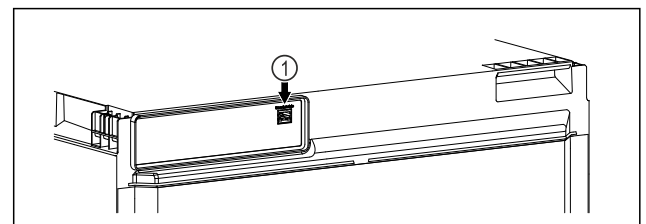

Fig. 28
- SmartModule Fig. 28 (1) has been inserted.